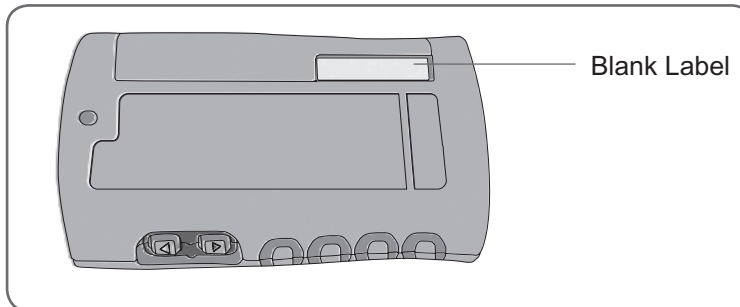

Figure 71: Label on the L300 Plus Control Unit for the System ID Number.
7. Once the Control Unit is registered, locate the System ID Number on the NESS L300 Plus carrying case (for example, A334). Write the number on the blank label on the back of the Control Unit. See Figure 71. This ID number identifies which NESS L300 Plus System the new Control Unit is registered to.